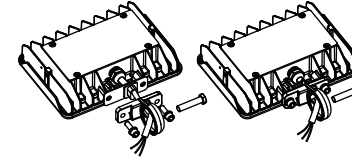

figure 1.5
- Step 3: Match the hole of hardware and rubber mat with bracket, pass wire through and fix it with screws(Watch out not to scratch the wire); (figure 1.5)